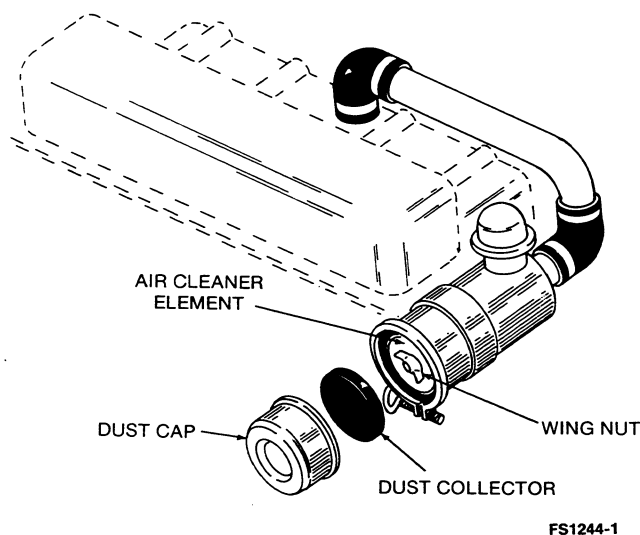

FIGURE 15. HEAVY DUTY AIR CLEANER
1. Remove the dust cap (see Figure 15).